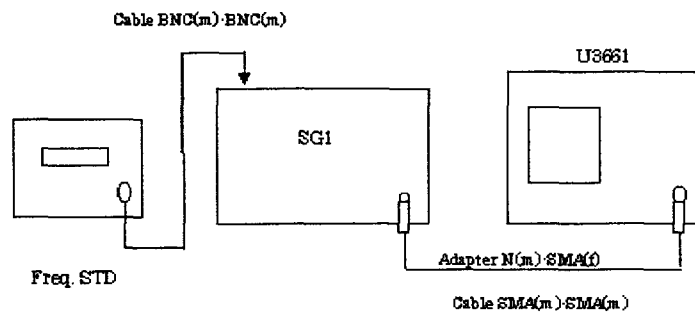

Figure 3-1 Setup of Frequency Reference Output Accuracy Test
1. Connect the equipment as shown in Figure 3-1.